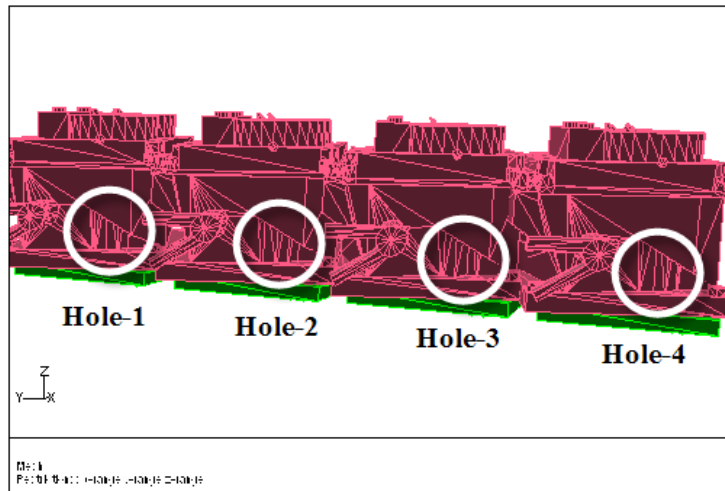

Figure 7.2: Holes to be Closed in the f\_v8-airintake Zone
- f\_v8-airintake (see Figure 7.2)
- (d) Click Display and rotate the geometry to obtain the view shown in Figure 7.2.